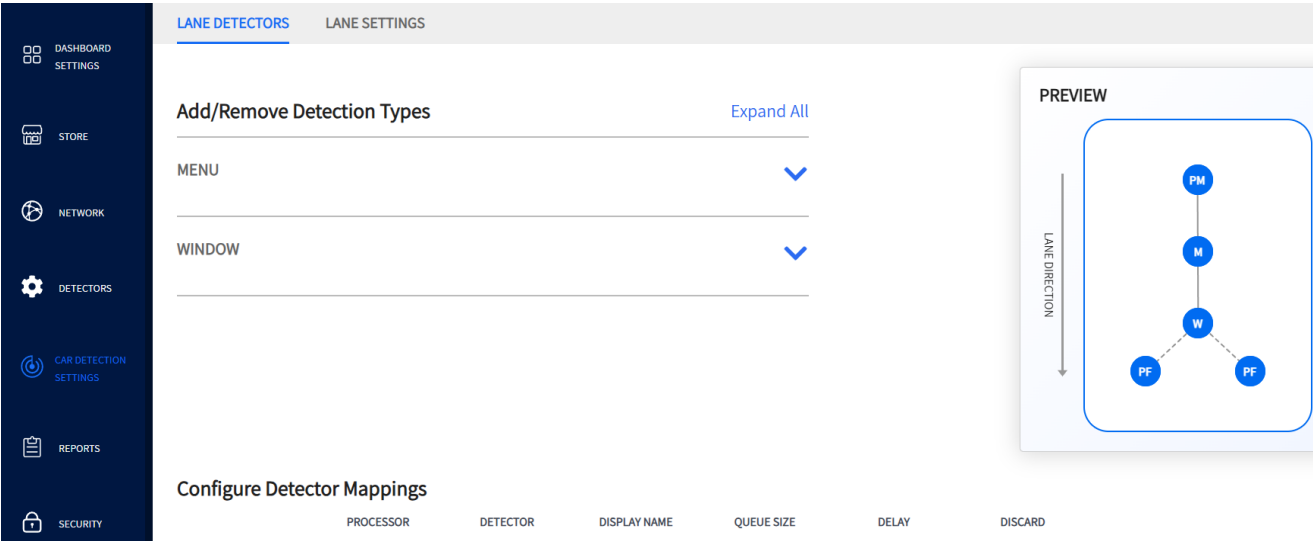
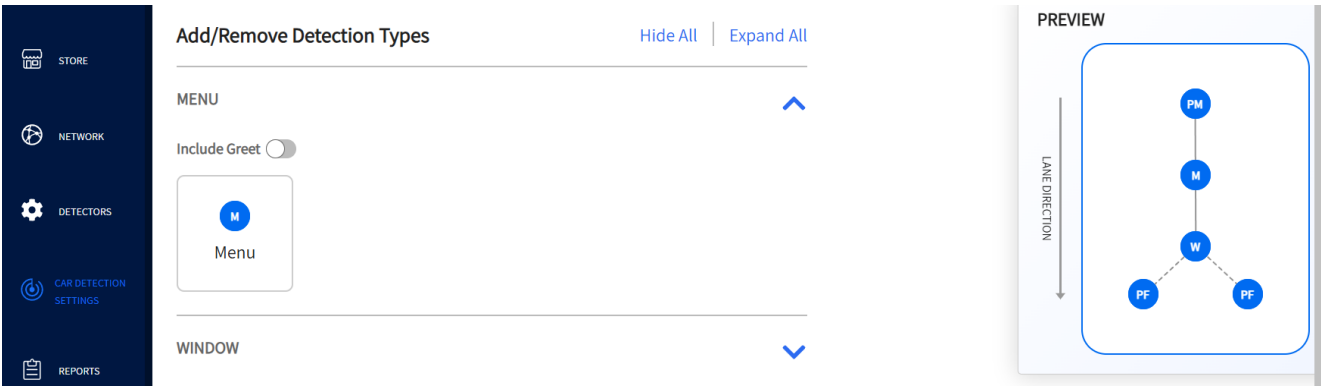
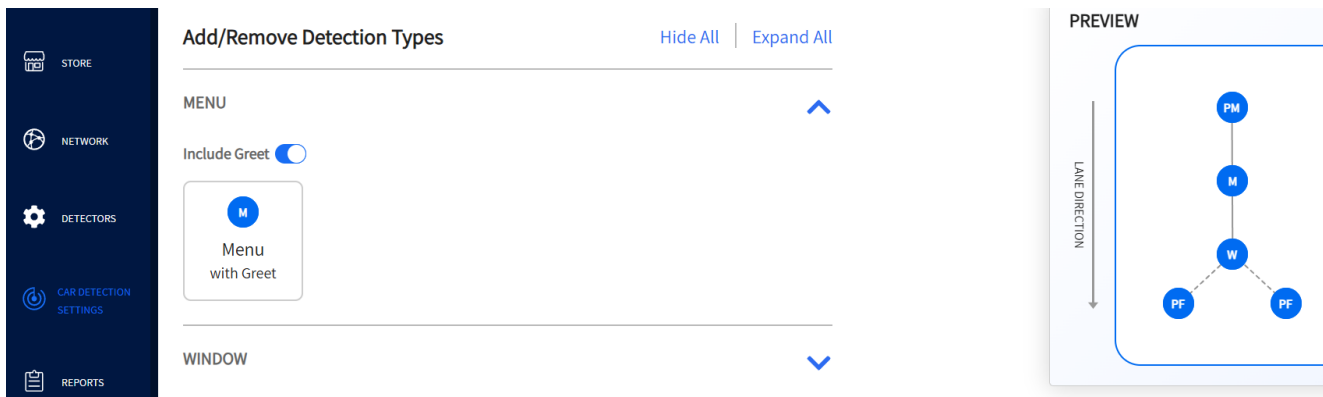

Fig. 8.1
Fig. 8.2
Fig. 8.3
2. Use the **Add/Remove Detection Types** option to select a loop detector location (Fig. 8.2 and 8.3).
Example: Fig. 8.1 shows a Single Lane store with one Pre-Menu (PM), one Menu (M), one Window (W), and two pull-forward detectors (PF). The PM and PF detectors shown in the PREVIEW pane are camera-based detectors. They are configured on the **DETECTORS** page and therefore do not appear in the **Add/Remove Detection Types** section. Therefore, only Menu and Window appear under **Add/Remove Detection Types** because they are controlled by the TSP60. To make adjustments to these menus, click on the down-arrow to the right of **MENU** to expand (see Fig. 8.2). Toggle the **Include Greet** switch on. The menu tile beneath the switch updates to reflect the change (see Fig. 8.3). See NOTE under “Vision AI on the ZOOM Nitro Dashboard” on page 36.